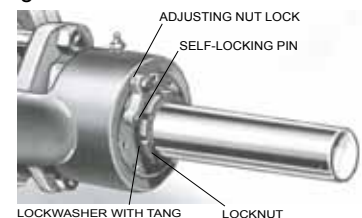

FIGURE 13
6. Bend the tang on the lockwasher up and with a spanner wrench, remove the locknut and lockwasher from the shaft. Refer to Figure 13.